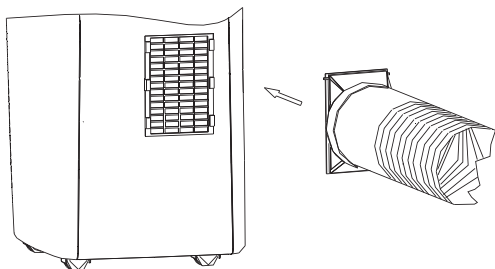

Fig 8
8. Connect the other end of the exhaust air duct and its accessories to the portable air conditioner shown in Fig 8.